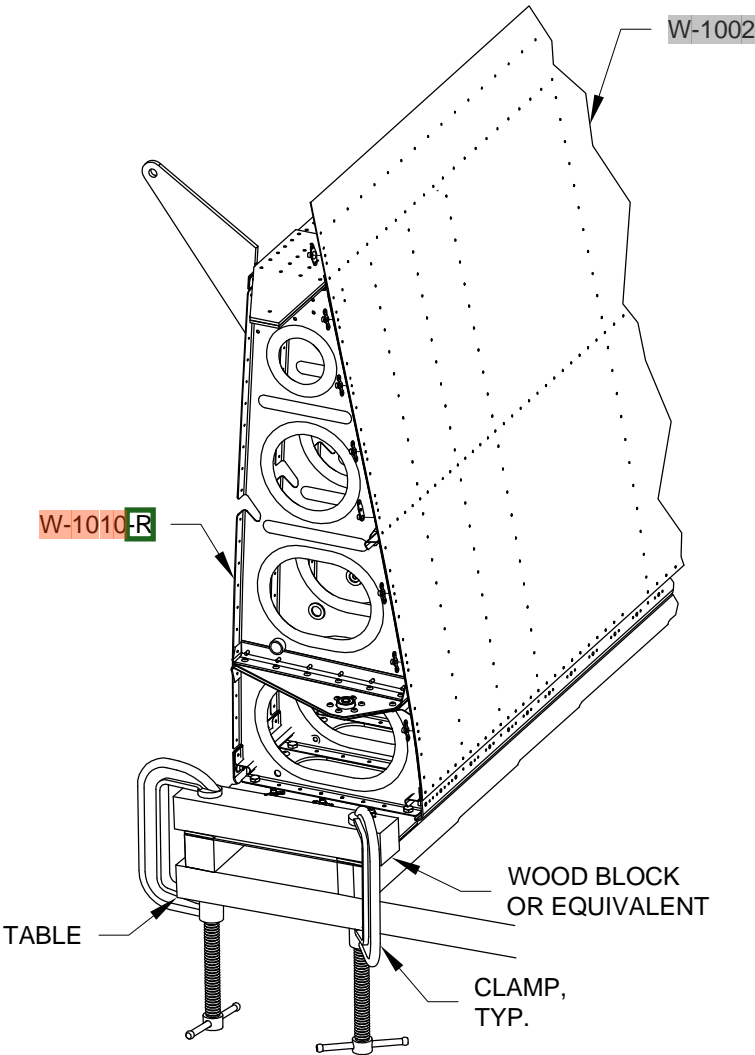

FIGURE 1: NUTPLATE INSTALL
Step 3: Rivet the W-1002 Top Inbd Wing Skin and W-1003 Top Outbd Wing Skin to the W-1028A and W-1028B J-Stiffeners, ribs, rear spar and main spar. See Figure 2 and Figure 3 for the rivet callouts. When riveting the inboard most row of rivets, install the nutplates as indicated in Figure 1 to the W-1010 Inbd Wing Rib, W-1027A and W-1027B Wing Walk Doublers and top inbd wing skin. To assure maximum skin tightness, rivet from the center of each skin outwards towards the root and tip. Do this on both skins saving the double row of rivets at the lap joint until last. For a higher quality skin finish, back rivet the skins in place. This will require a large bucking bar, covered with plastic packaging tape, laid over the manufactured head of the rivet on the outside face of the skin and an extended back rivet set.